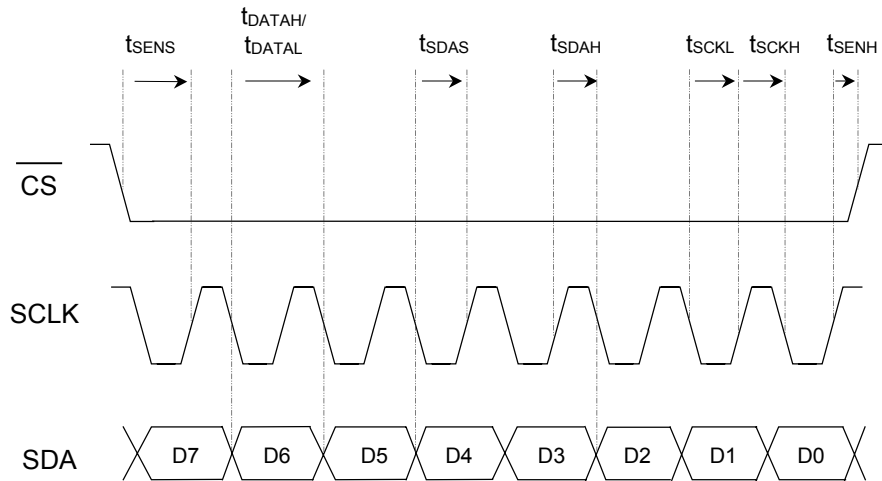

Figure 13 Serial Interface Timing Diagram
The serial interface (SI) programs the gain of the MT1530 using an 8-bit control word. The SI uses the gain control word to set the VA's and PA's gains individually using an internal decoder. It has an active-low chip-select ( $\overline{CS}$ ) to synchronize to the incoming word. Data is clocked MSB first on the rising edge of SCLK. Data is latched on the rising edge of  $\overline{CS}$ . Table 4 and Table 5 show the register format. Figure 13 illustrates serial interface timing.